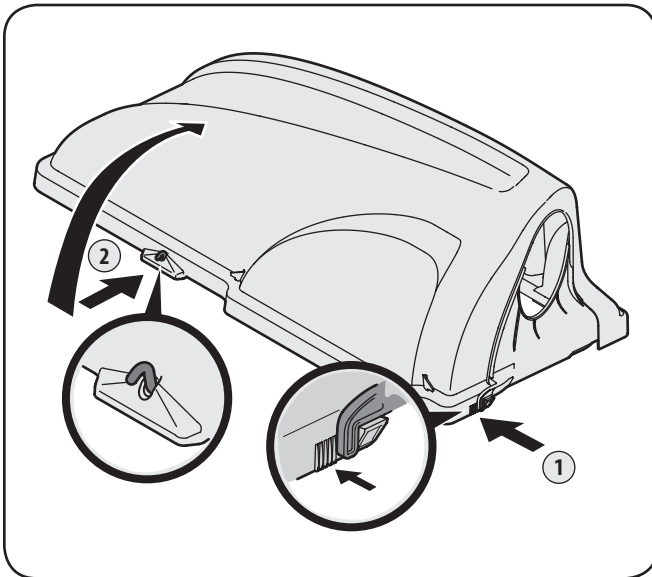

Figure 5-1
2. Lift up grass bag cover by pushing in on the rear, right-side tab with your right hand, as seen in 1 of Figure 5-1, and lifting the cover with your left hand in the center rear of the bagger cover, 2. Do not remove the chute tube assembly from the tractor.